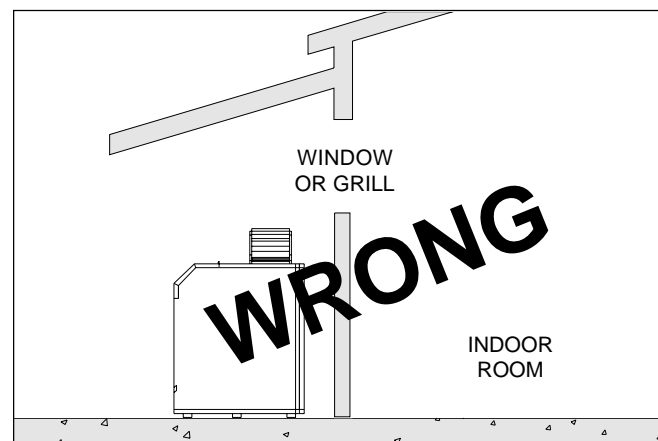

Figure 2. Incorrect Installation of Boiler.
3. Never install the boiler under any kind of roof overhang. Do not locate the boiler below or adjacent to any doors, windows, louvers, grills, etc. which communicate in any way with an inhabited area of a building, even though such communication might be through another structure such as a garage or utility room (see Figure 2).